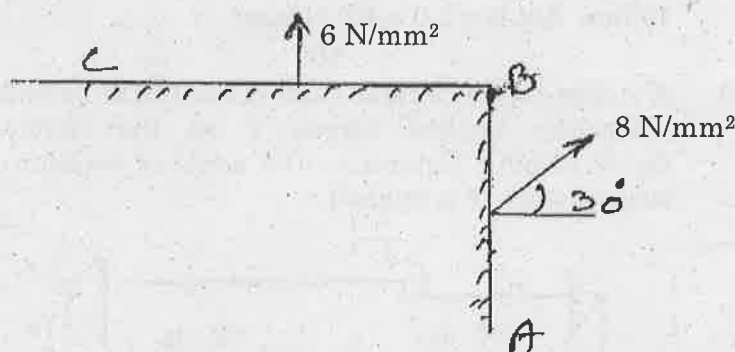

Fig. Q. 16(a)
16. (a) The intensity of resultant stress on a plane AB (Fig.Q.16(a)) at appoint in a materials under stress is 8 N/mm^2 and it is inclined at 30° to the normal to that plane. The normal component of stress on another plane BC at right angles to plane AB is 6 N/mm^2 . Determine the following :